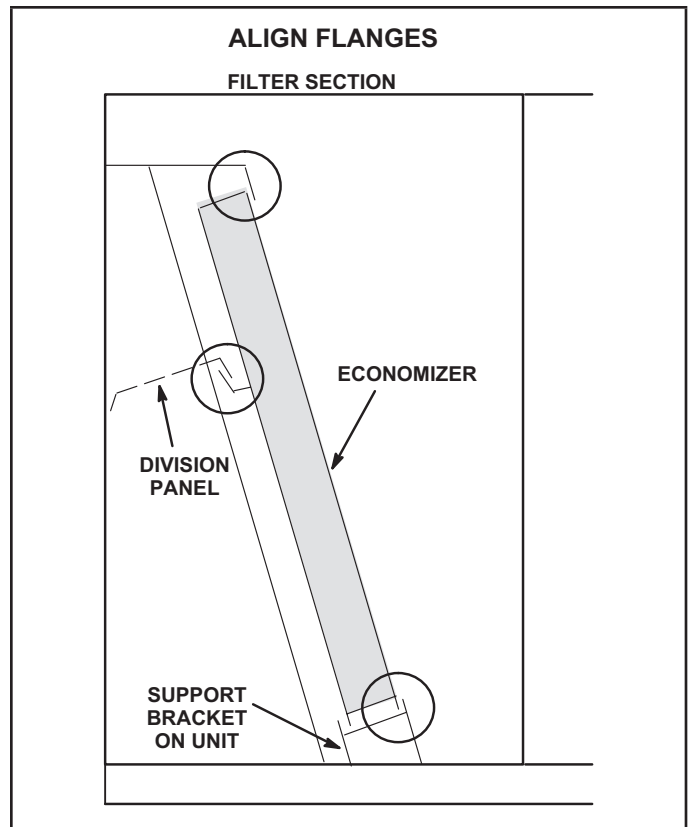

FIGURE 38
- 3 - Align bottom of economizer with economizer support bracket and slide economizer into unit. Make sure the flanges align as shown in figure 38.